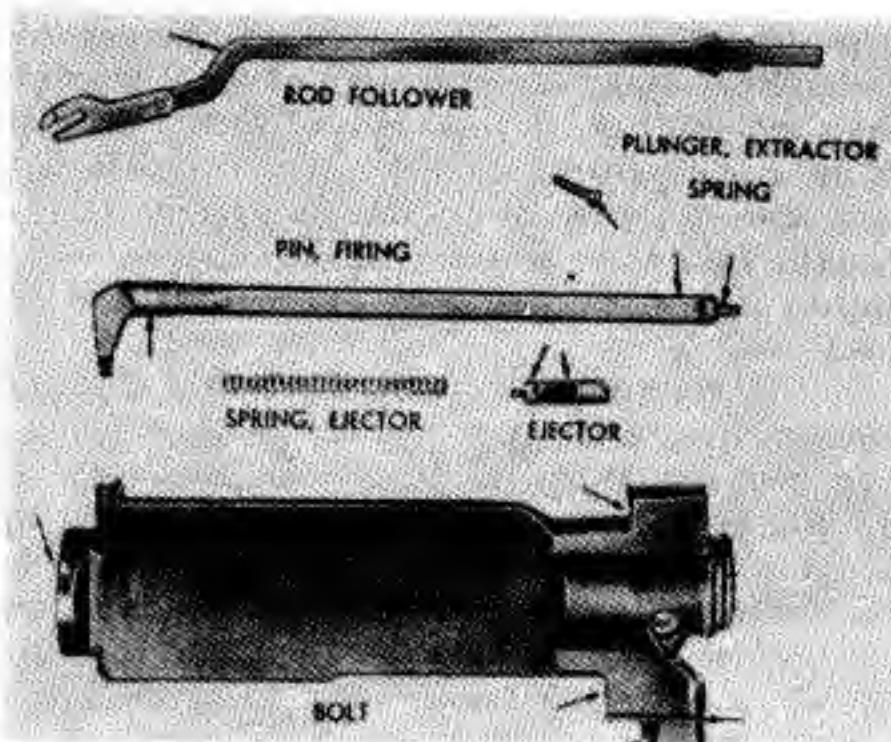
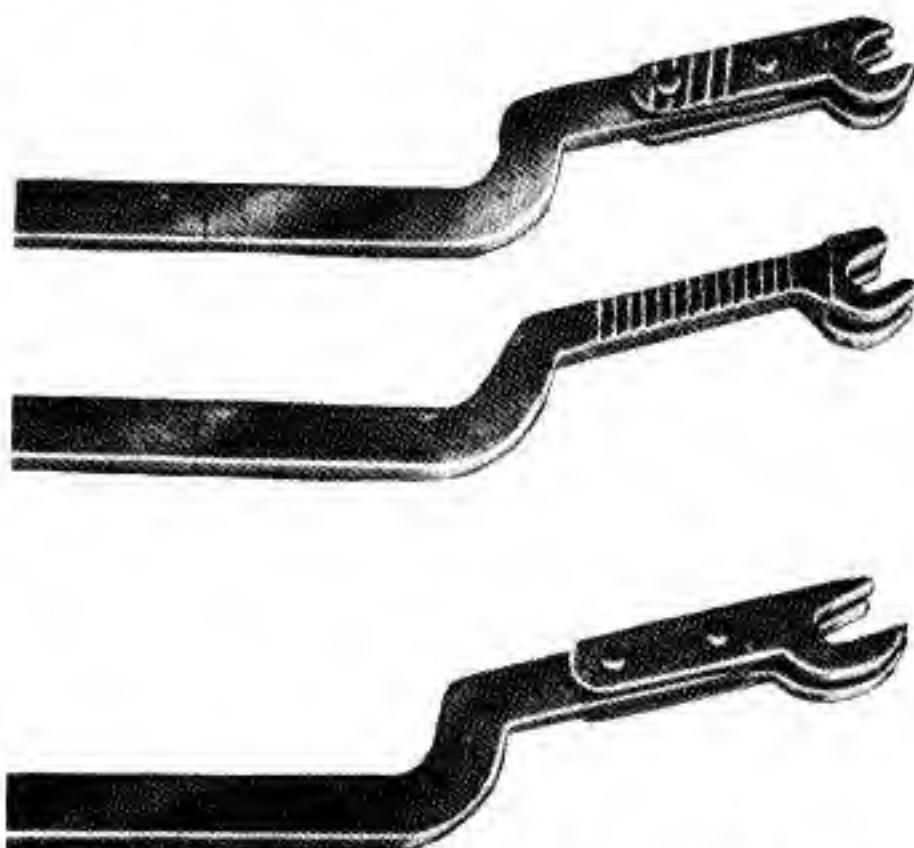

Fig. 118. Follower rod and bolt group points to be inspected.
Fig. 119. Old and New Type Follower Rods.
46. Follower rod: inspect the follower rod (Fig. 118) for a pinched or worn fork and for loose rivets. The follower rod should have a long fork; therefore, replace all rods having short forks (see Fig. 119). This is necessary to prevent the rod from disengaging when grenades are being launched.